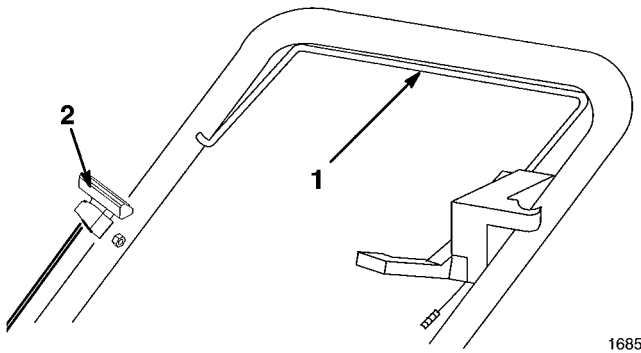

Figure 8
- Squeeze control bar against handle (Fig. 8).
- Pull starter handle (Fig. 8) lightly until resistance is felt, then pull sharply. Let rope return to handle slowly.